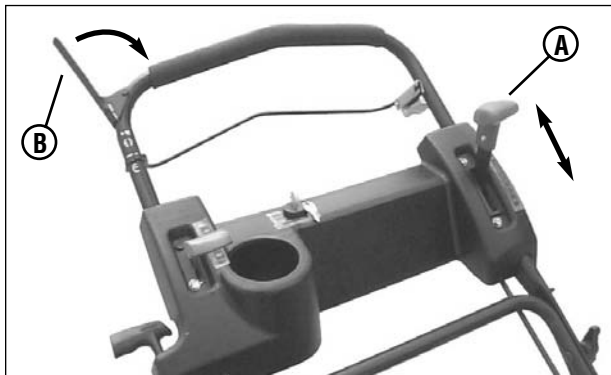

Figure 6: Mower drive controls
2. Move the ground speed control (A, Figure 6) to the desired speed position.
3. Squeeze the wheel drive control (B) against the handle to engage the wheel drive and propel the mower forward. Forward speed can be adjusted while the mower is moving by changing the position of the ground speed control.